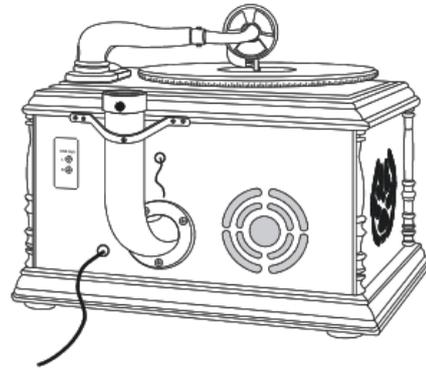

Fig8
- 7.) Look at Fig8. It shows the assembled TR-W102U host cabinet with the U-type bracket (B) apparatus.